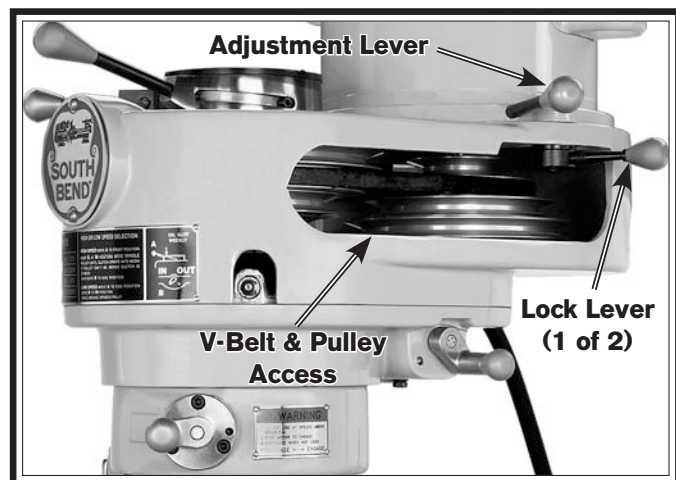

Figure 35. V-belt and pulleys exposed (Model SB1026 shown).
2. Remove the belt housing side covers on both sides of the head to expose the V-belt and pulleys, as shown in **Figure 35**.